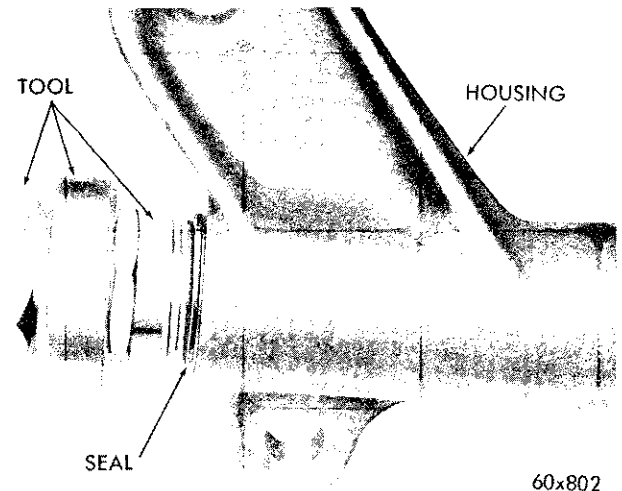

Fig. 7—Removing Gear Shaft Oil Seal
a. Removal (Fig. 7)
(1) Remove the steering gear arm nut.
(2) Remove the steering gear arm with Puller, Tool C-3646.